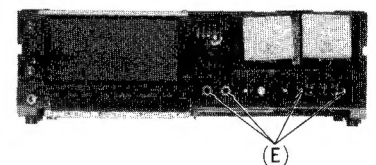

Fig. 4
(5) Digital electronic counter
- a. Number of figure: 4 (decimal system)